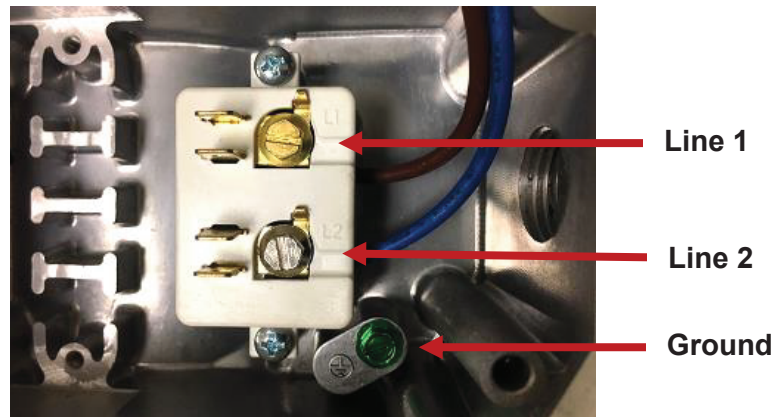

Figure 3 – AC Input Terminal Block
7. Install the **AC** and **Ground** input wires as specified on the motor nameplate. You must connect **Line 1**, **Line 2**, and **Ground** (⊕ Green Screw) in the wiring compartment correctly and securely (Figure 3).